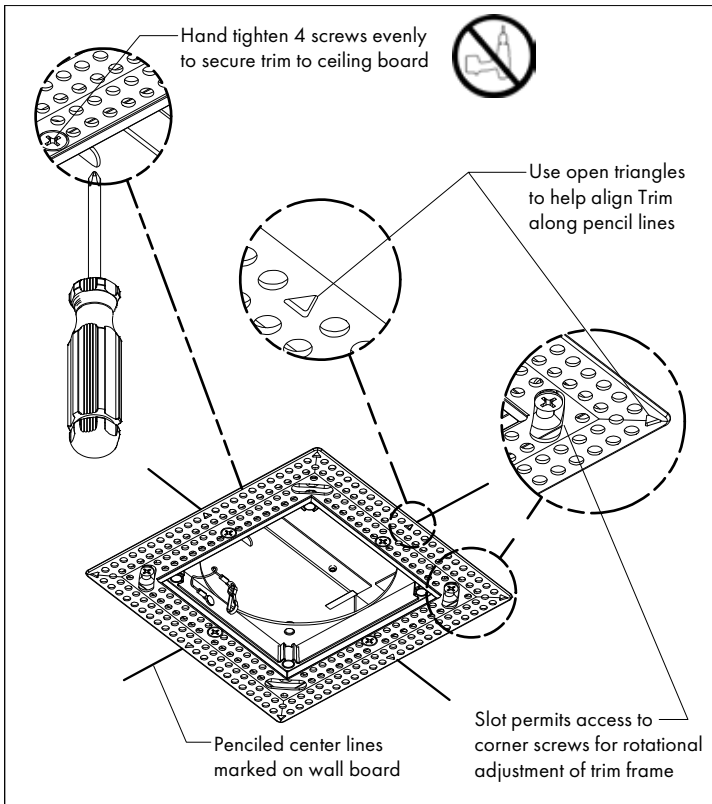

FIG 3.3 Install & Adjust Trim (for Single & Multi-Lamp)
STEP 4 Install trim to housing by hand tightening 4 screws until trim is secured against ceiling board - **FIG 3.3**.